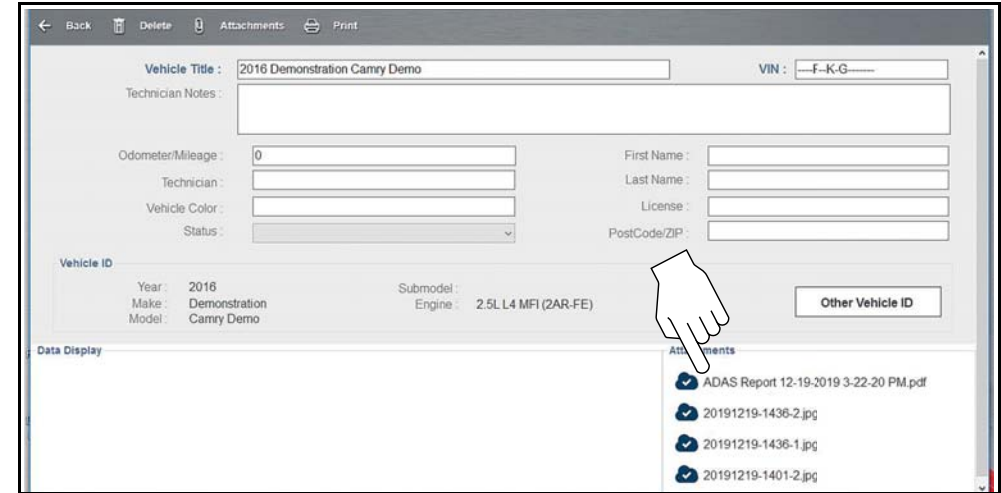

Figure 18-7
3. Select and open the ADAS Report PDF file from the attachments box (Figure 18-7).